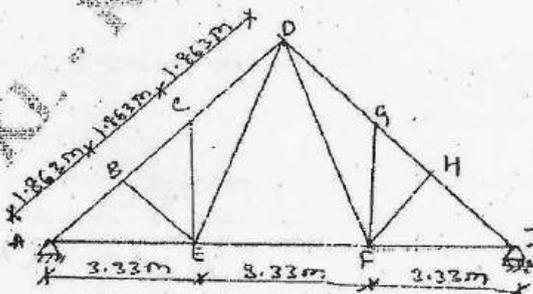

Fig. Q3
- 3 The centre line of a roof truss is as shown in the Fig Q3. The forces in the members of the truss due to dead load, live load and wind load is given below: Design the roof truss member using M16 bolts of property class 4.6. Also design a bearing plate and anchor bolts for a pull of 40 kN. Use M20 grade concrete. Draw to suitable